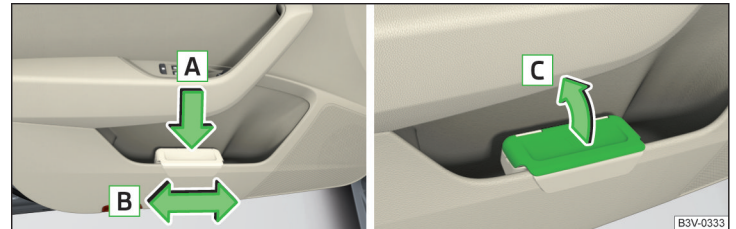

Fig. 114 Waste container: inserting and moving/opening
- Push the waste container in the rear area in the direction of the arrow **A** » Fig. 114.
- Remove the waste container in the opposite direction to the arrow **A** » Fig. 114.
- Lift the cover in the direction **C** » Fig. 114.